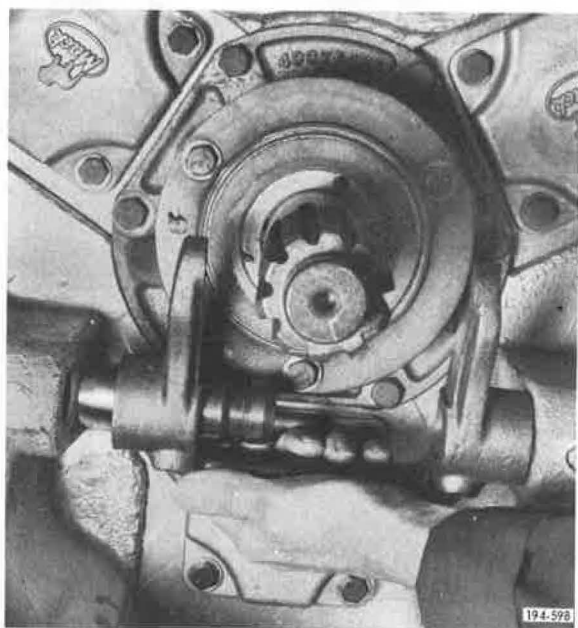

Figure 5-989. Installing Yoke and Stub Shaft
22. Install setscrew and tighten to recommended torque. See Figure 5-989. Refer to Torque and Tolerance Table, Item 1.